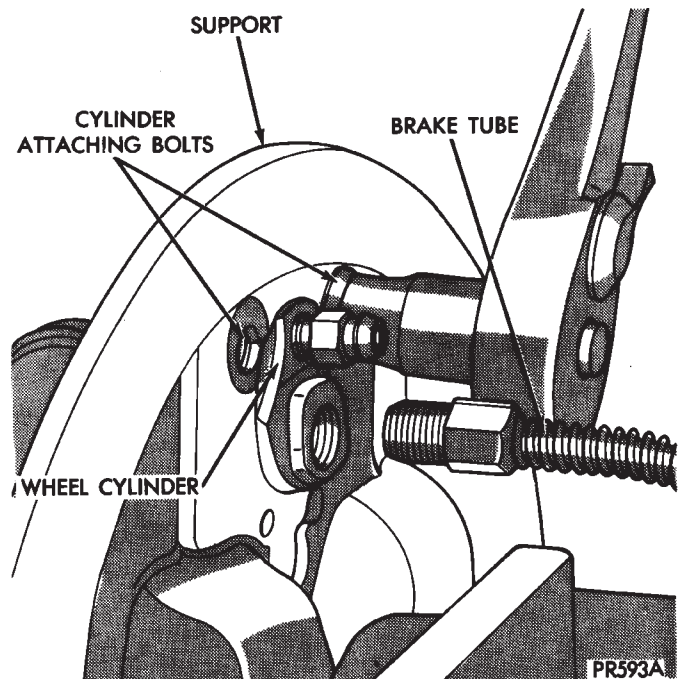

Fig. 2 Removal And Installation Brake Tube And Wheel Cylinder
(3) Disconnect hydraulic brake tube from wheel cylinder (Fig. 2).
(4) Remove wheel cylinder to brake support plate attaching bolts and washers (Fig. 2).
(4) Disconnect hydraulic brake tube from wheel cylinder (Fig. 2).
(5) Remove support plate to wheel cylinder attaching bolts and washers (Fig. 2).